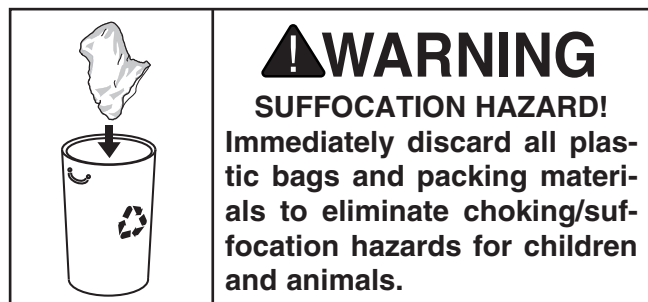

Figure 1. Contents of collector box.
1. Follow **Steps 1–5** in the **Assembly** section, beginning on **Page 20**. In **Step 5**, replace the original brackets shown in **Figure 14** of the owner's manual with those provided (see **Figure 1**).